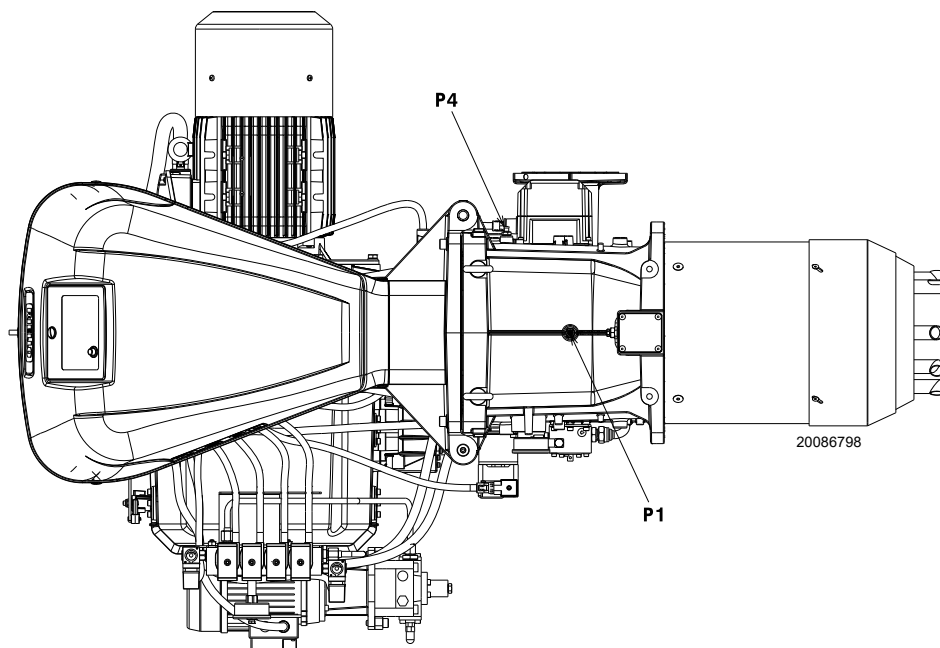

Fig. 28
Gas pressure measured at the test point P1)(Fig. 28), with:
- subtract the combustion chamber pressure from the gas pressure measured at test point P1) (Fig. 28 on page 31).
Gas pressure at test point P1) (Fig. 28) = 29,4 mbar
To calculate the required gas pressure at test point P1) (Fig. 28 on page 31), set the MAX output required from the burner operation:
- Read, on the right (column 1), the pressure at the test point P1) (Fig. 28 on page 31).
Pressure required at test point P1) (Fig. 28 on page 31).